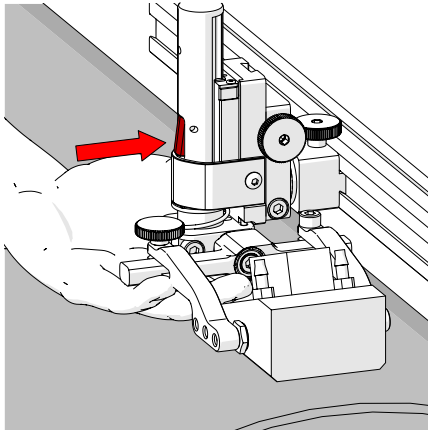
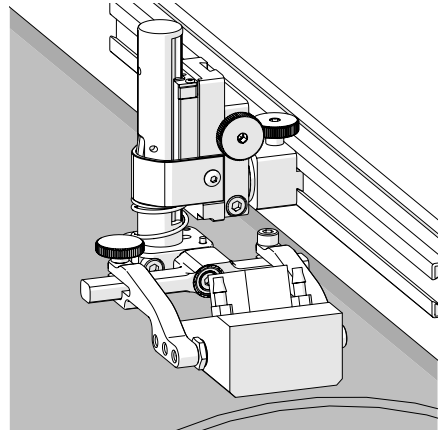

Fig. 70 - Press latch button
Fig. 71 - Lower toward scan surface
4. Lift the yoke slightly and press the latch button (Fig. 70), then slowly lower towards scanning surface to apply spring pressure to the wedge (Fig. 71).